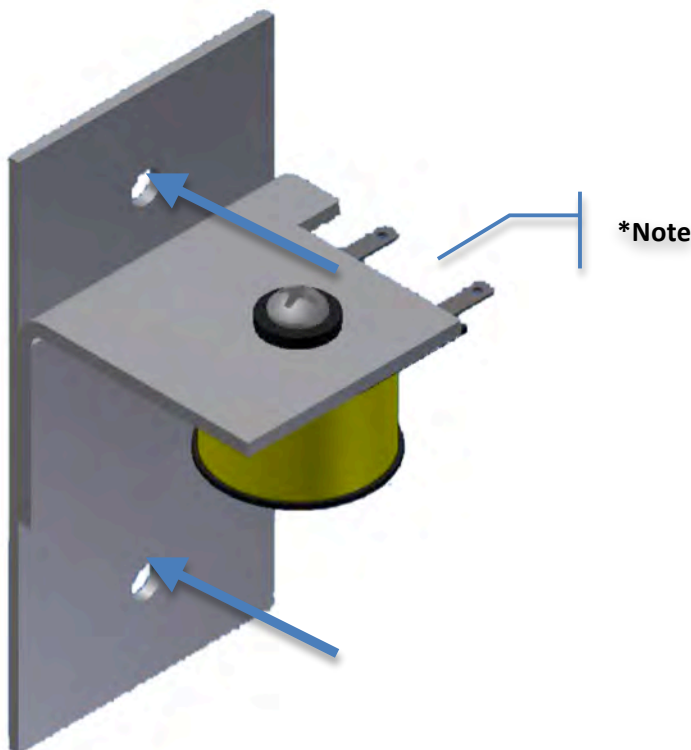

Figure 5: Mounting Holes for Door Electro Mag Bracket
Step 3. Using these two screws mount the newly modified supplied bracket. See Figure 5 below.